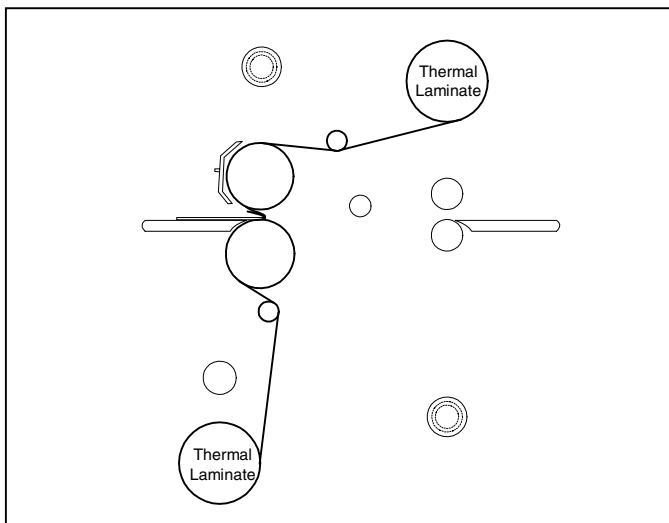

Fig. 24
8. Pivot the table back to its feeding position while ensuring the threading card is on top of the feed table (Figure 24).